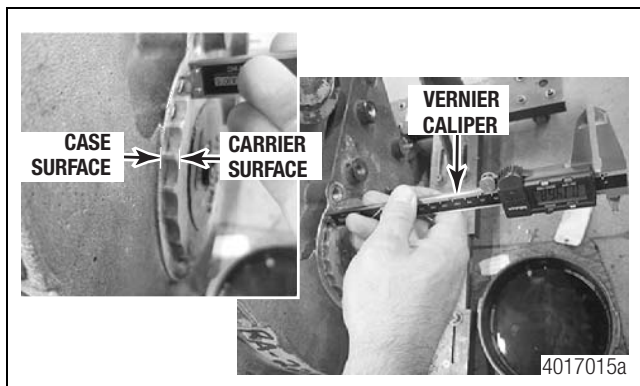

Figure 6
- Using the back of a Vernier caliper as a depth gauge, measure the distance the adjustable bearing carrier is standing off the case surface. This measurement will be used as a secondary reference during reinstallation to make sure the adjustable bearing carrier is threaded back into the same location. Figure 6.